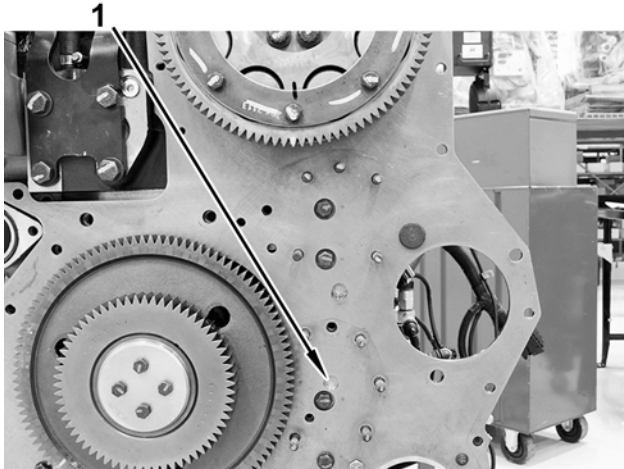

Figure 11 Fixed Idler Pilot Hole
16. Inspect fixed idler pilot hole (Figure 11, Item 1).